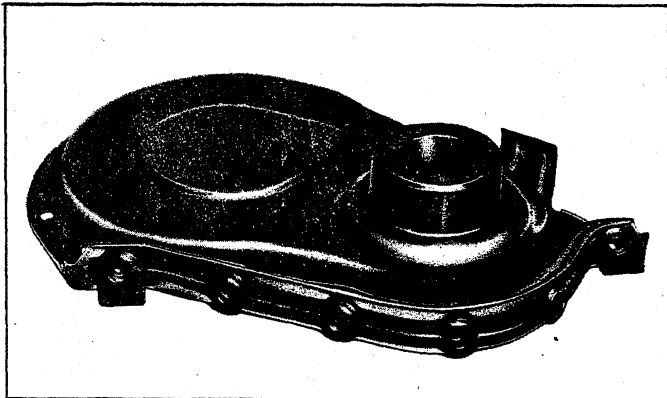

Fig. 11L - J-21742 Centering Tool in Cover
2. Install centering Tool J-996 or Tool J-21742 in crankcase front cover seal (fig. 11L).